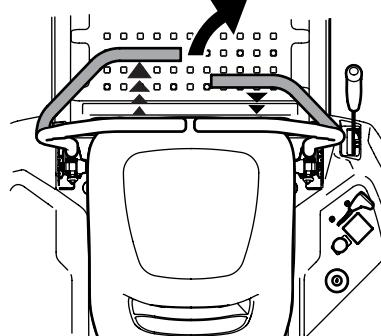

Figure 3-6
- To turn to the right, move the right drive control lever rearward of the left lever. See Figure 3-6.